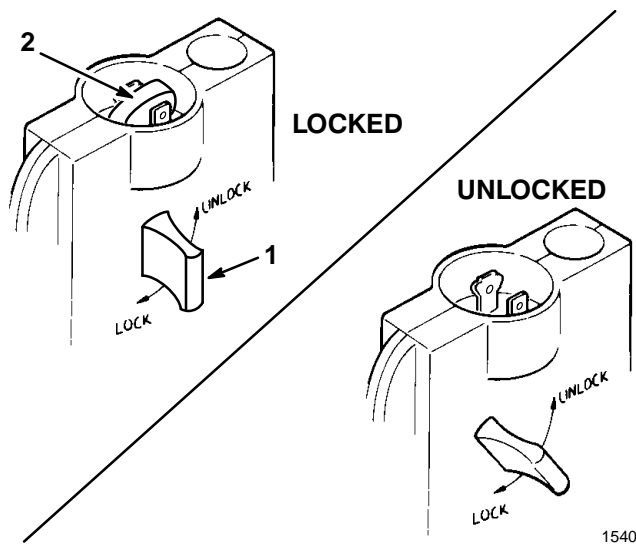

Figure 5
1. To unlock snowthrower, push key into hole (Fig. 5). While holding key down, turn key counterclockwise. The interlock tab rotates away from prongs, allowing extension cord to be plugged in (Fig. 5). Do not attempt to remove key when in the unlocked position.